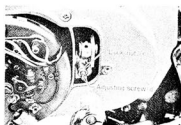

Fig. 4-8-15
- 1) Remove the dynamo cover. (Fig. 4-8-15)